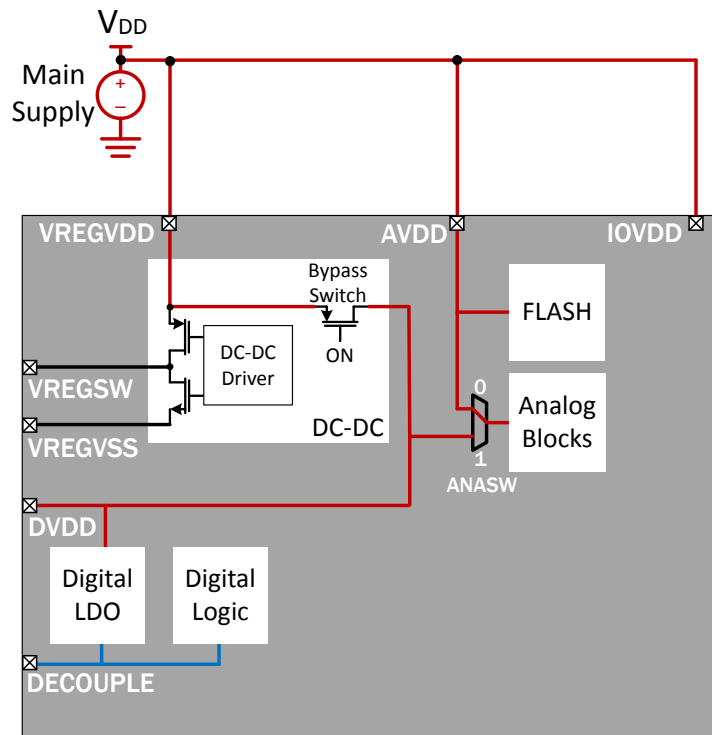

Figure 3.1. EFM32xG1 and EFR32xG1 Startup Configuration
**Note:** Figure 3.1 EFM32xG1 and EFR32xG1 Startup Configuration on page 11 is only provided to show the device startup default supply configuration, and is not a usable application configuration.